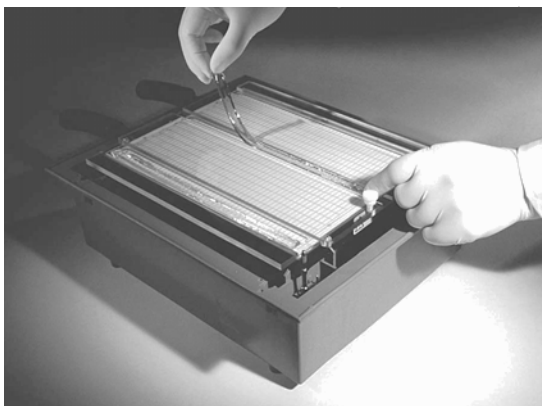

Fig 4 Applying the buffer strip to the centre slot
- 3 Carefully peel back the foil on the yellow-coloured (+) anodic buffer strip and place it in the appropriate slot of the positioner (Fig 4).